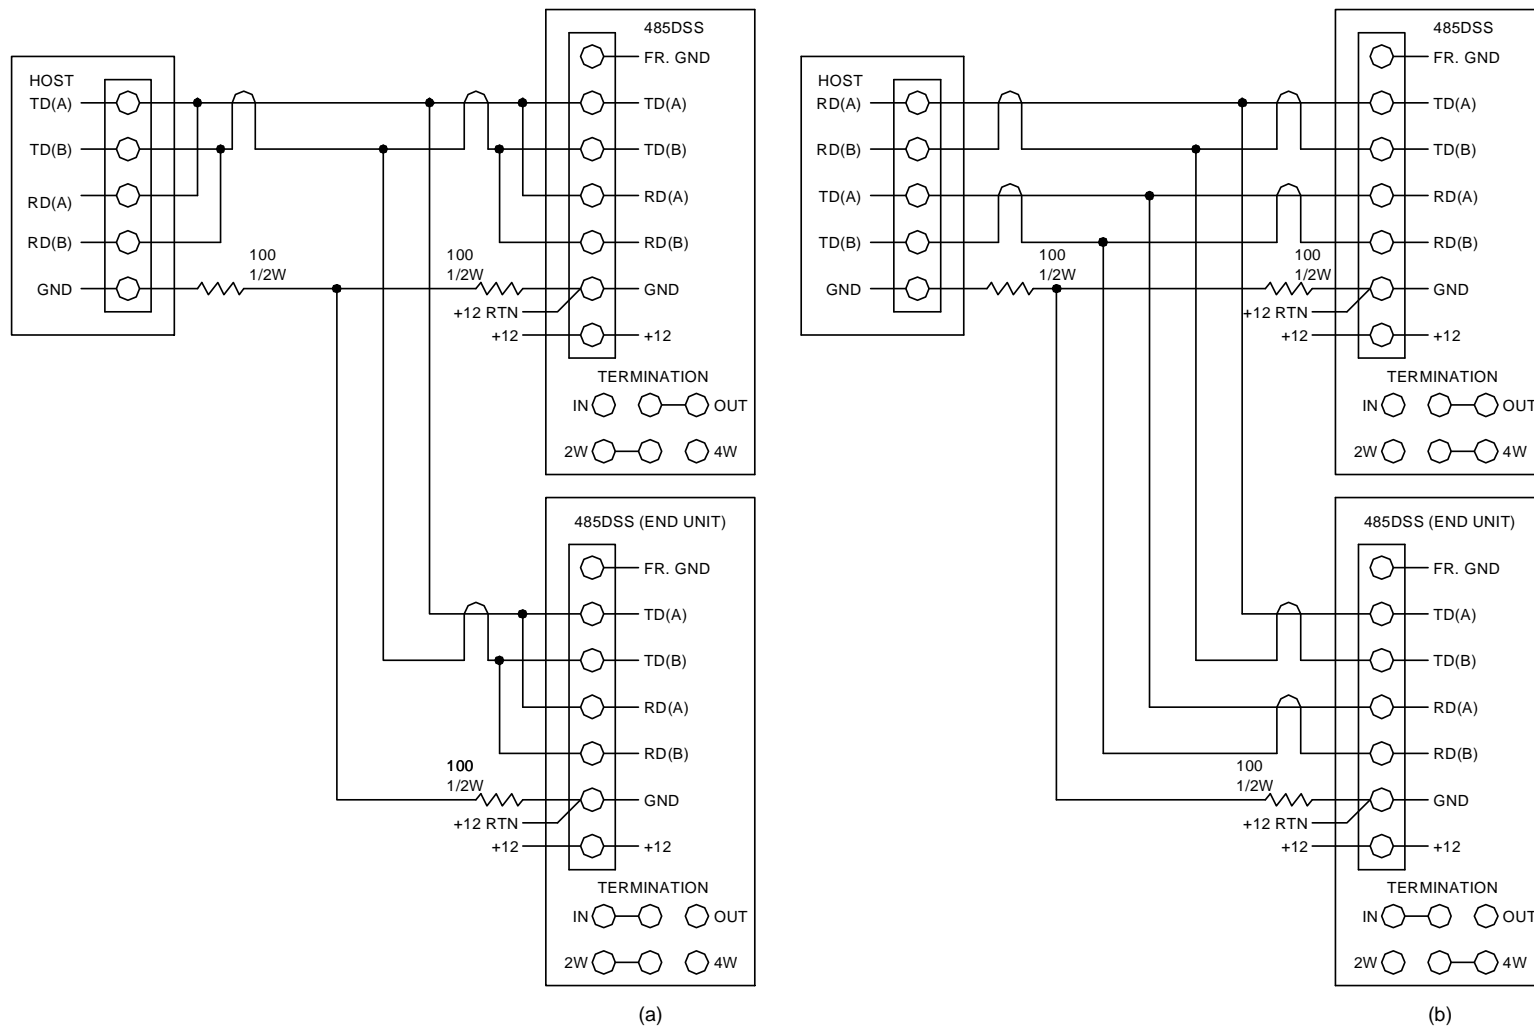

Figure D.1 RS485 (a) 2-wire and (b) 4-wire connections
2. Set the 485DSS for either 2-wire or 4-wire communications. Jumper settings are illustrated in figure D.1.
3. For noisy environments, a terminator may be required between the RD(A) and RD(B) lines. To add a terminator, set the termination jumper to IN to the 485DSS at the end of the line.